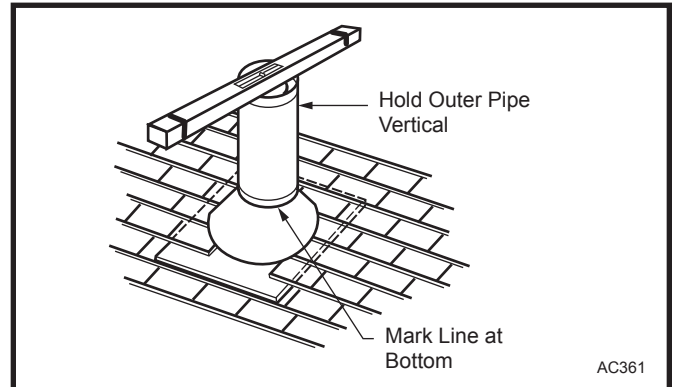

Fig. 2 Mark trim line on cone at bottom of pipe section (flat roofs only).
3. Lay flashing on the roof. Place an outer pipe section on the cone of the flashing. Be sure the pipe is straight by laying a level across the top. Mark a line on the flashing (Majestic 8-6-12 or 8-12-12) around the bottom of the pipe section. (Fig. 2)
Use tinsnips to cut along the line on the flashing cone. Trim it if necessary so that the cone slips over the outer pipe. Lay flashing aside. (Fig. 2)